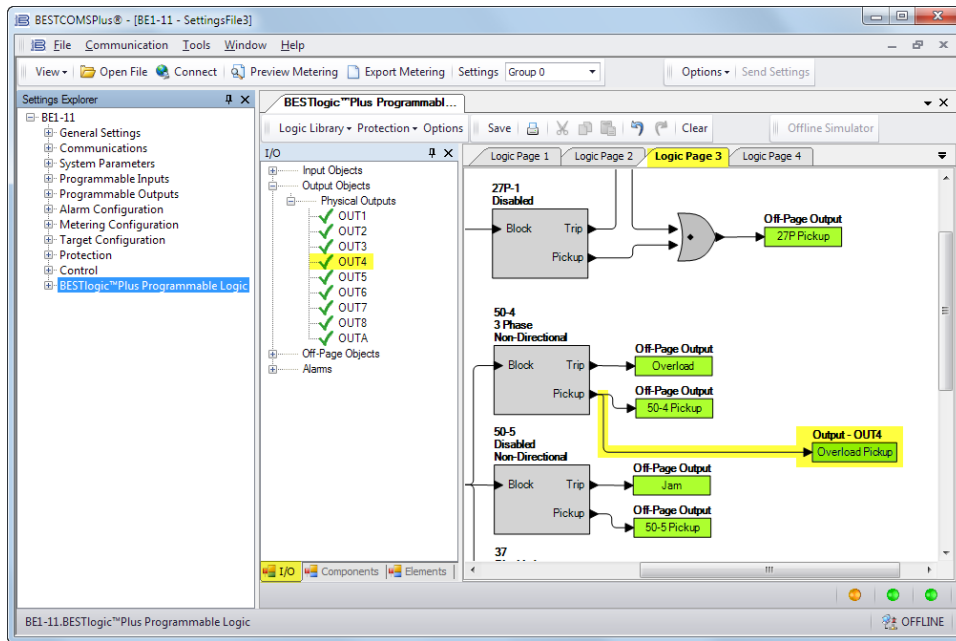

Figure 2-14. BESTlogicPlus Programming OUT4
Step 10: In this step, the Pickup output of the 50-4 element is connected to Output 4. When the Pickup output of the 50-4 element is true, the label of Output 4 is displayed in the fault report and/or sequence of events report. The label is named in Step 12. Click the Logic Page 3 tab and then click the I/O tab at the bottom. Expand Output Objects and then Physical Outputs. Click and drag OUT4 over to the logic diagram. Click on the Pickup output of the 50-4 element and drag it to the input of OUT4 to make a connection. Refer to Figure 2-14.